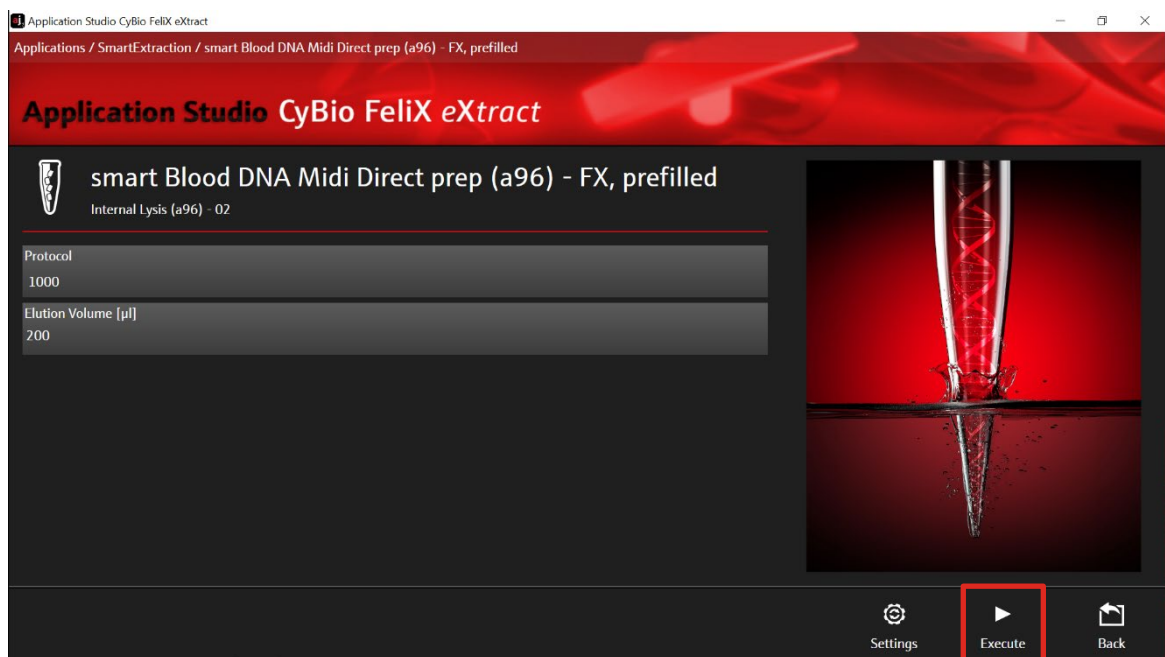

Figure 14: Selection of sample volume (1000 µL) and elution volume (variable).
8. Select the protocol for 1000 μL sample volume and adjust the elution volume between 150-500 μL . Start the protocol by clicking "Execute" (→ see Figure 14).